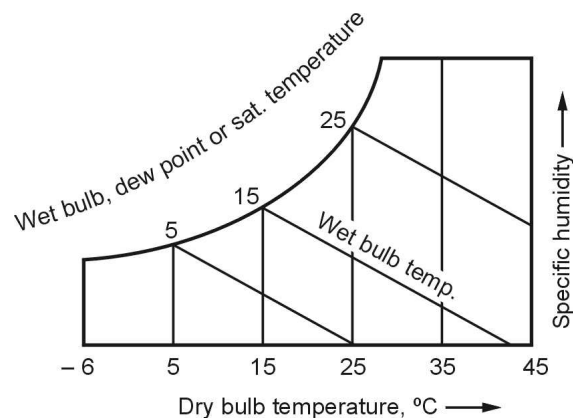

Fig. 5.61 : Wet bulb temperature lines
- These lines are inclined straight lines and are not uniformly spaced as shown in Fig. 5.61.